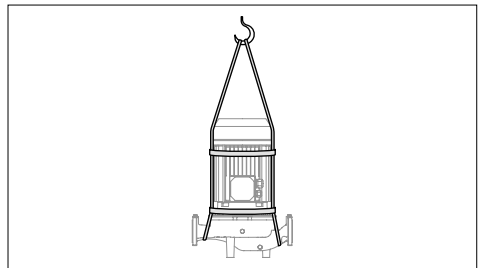

FIG.1: Lifting of 3E pumps with the help of rope
WARNING! TO LIFT OR MOVE THE MOTOR-DRIVEN PUMP, USE A ROPE STRONG ENOUGH TO TAKE ITS WEIGHT, TAKING CARE NOT TO TILT THE PUMP TOO MUCH (FIG 1);
- Remove the bolt between the pump casing and motor bracket and simply remove the motor axially. Use any suited hoist when lifting/moving the pump. (FIG 1)